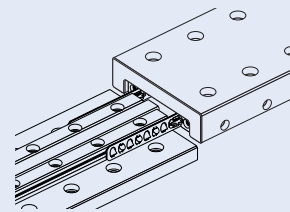

Fig. 17.3
- Engage the end of the rack gear of the way at table side with the pinion gear while adjusting the longitudinal and traverse positions of the way at table-side and pushing the retainer to secure. Do not give any excessive force to the cage. (See Fig.17.3)